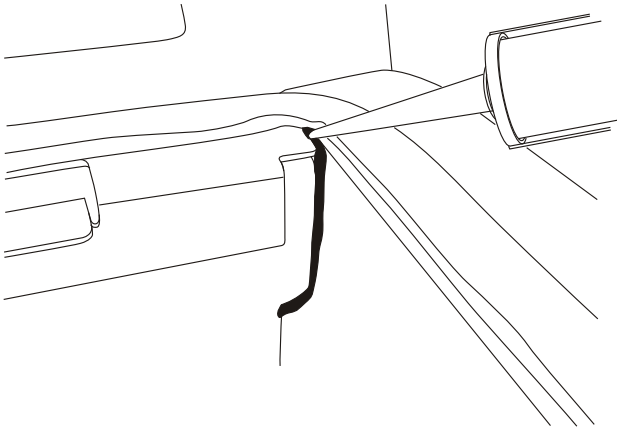

Figure 9
16. Inject additional silicone under the foam tape at the front join between the tray sides and the tray front to ensure there is not a gap under the foam tape. Refer to figure 9.